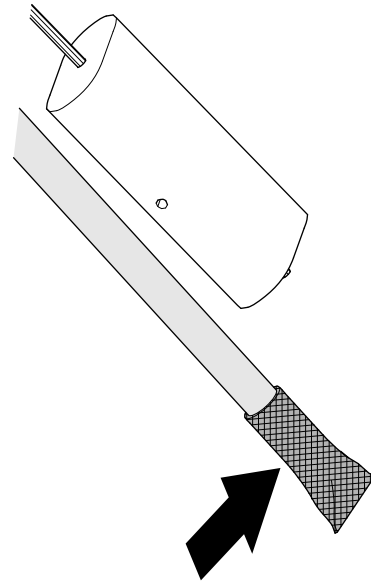

Figure 122
1. Clean the screen at the end of the fuel pick-up tube (Figure 122).